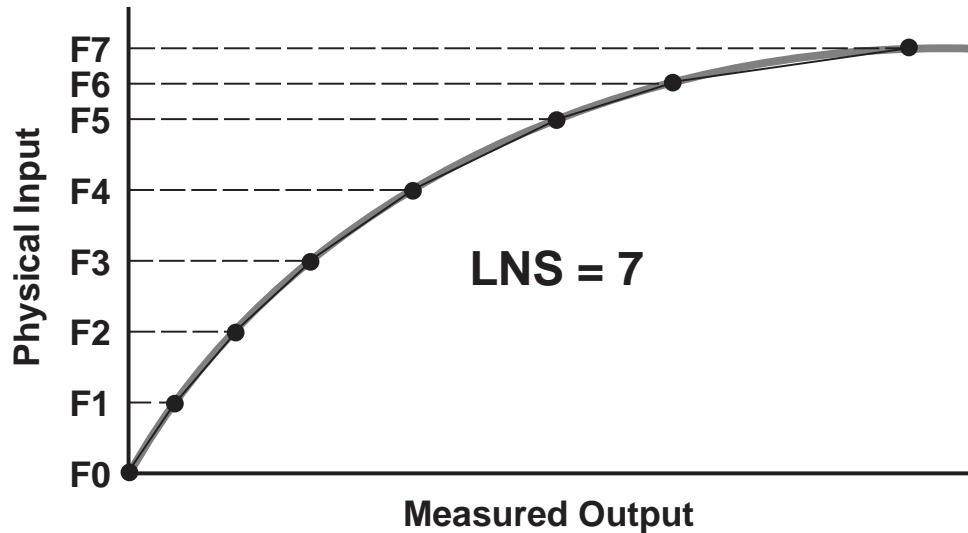

Fig. 13 Typical Linearization Curve, with Seven Segments
You will set up a linearization table for an input channel by entering a ZERO ("MINIMUM") POINT and up to 15 subsequent LINEARIZATION POINTS. These points will define up to 15 SEGMENTS of the ideal linear output for that channel (see Fig. 13). The more segments you specify, the greater the overall linearity. In the following procedure, you will have to be able to continuously vary the magnitude of physical input, or "load," on the channel's source transducer, and to measure the resulting output accurately in the desired engineering units.
* The more *nonlinear* curve portions, however, may require shorter and more numerous linearization segments, as with segments F5 to F6 and F6 to F7 in Fig. 13.